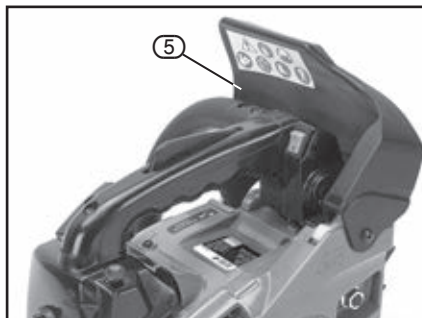

FIG.1
### 8.1 ATTACHING/ADJUSTING GUIDE BAR AND CHAIN (FIGS.1 – 12)
- Position the power head as shown (Fig.1). Ensure the chain brake is disengaged. To disengage, pull the chain brake lever (5) towards the front wrap round handle (4).
- With the combination box spanner (32), remove the guide bar locking nut (20).